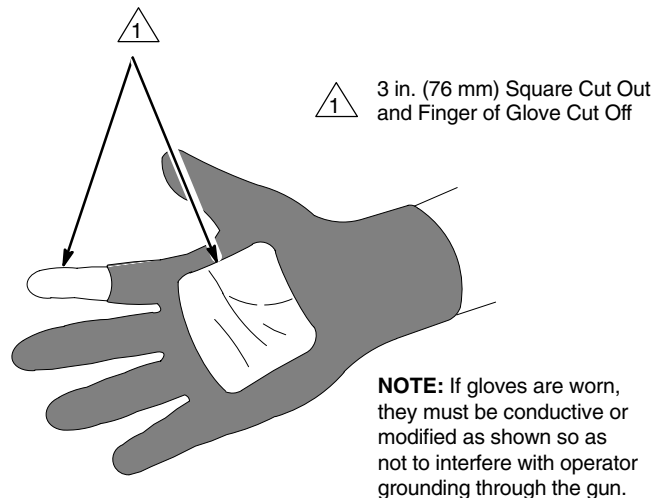

Fig. 2
8. *All persons entering the spray area:* shoes must have conductive soles, such as leather, or personal grounding straps must be worn. Rubber or plastic soles are not conductive. The operator must not wear gloves that insulate the hand from the spray gun. The gloves must be conductive or modified as shown in Fig. 2.